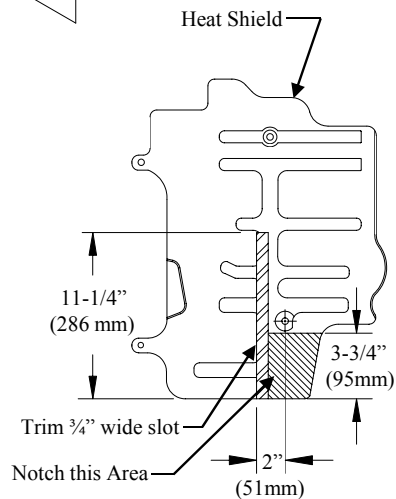

Figure 2
- Trim heat shield as shown in Figure 2.